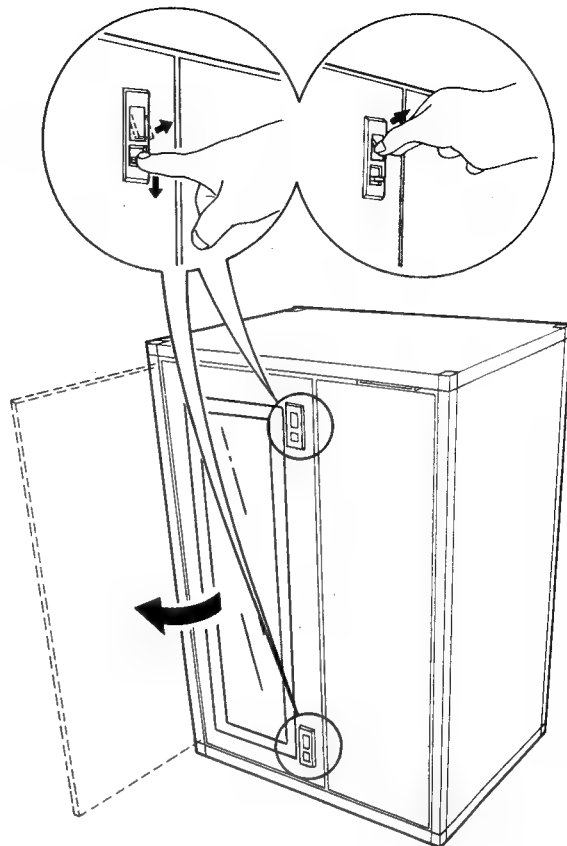

Fig. 8-1. Opening the Door
1. Push down the door lock release knob located above and below the door to open (in case the door is key-locked, unlock it first with the key and then push the knob down). See Fig. 8-1.